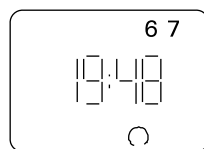

Figure 12.
- press [day] -button to set desired day of the week for system to go off. (Fig. 12)